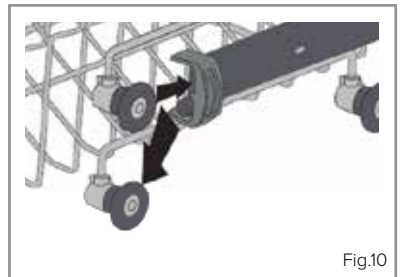

Fig.10
- Remove the upper basket, and relocate the alternate set of wheels on the runner (Fig. 10), pushing the basket back into place.